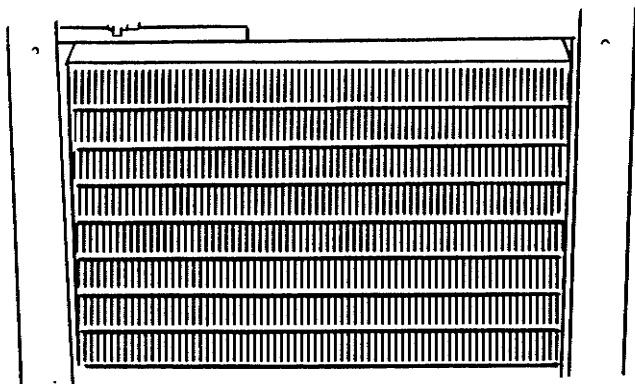

Figure 36. Condenser
5. Visually inspect the condenser for dirt by shining a light through the coil from the back (inside) of the condenser (Fig. 36).